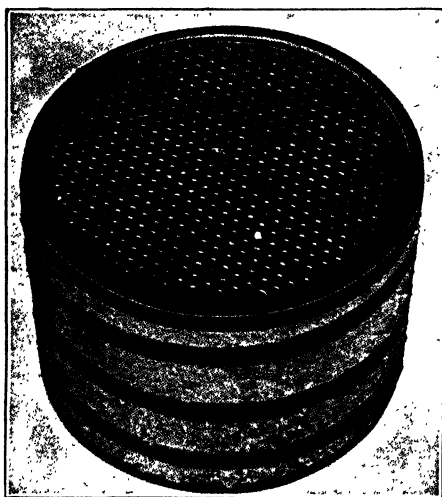

Fig. 38. Stanley Fire-Tube Boiler
*Stanley.* One of the simplest of the fire-tube boilers is the Stanley, Fig. 38. This is made up of a pressed-steel shell, which includes the lower head, the upper head being a separate piece.